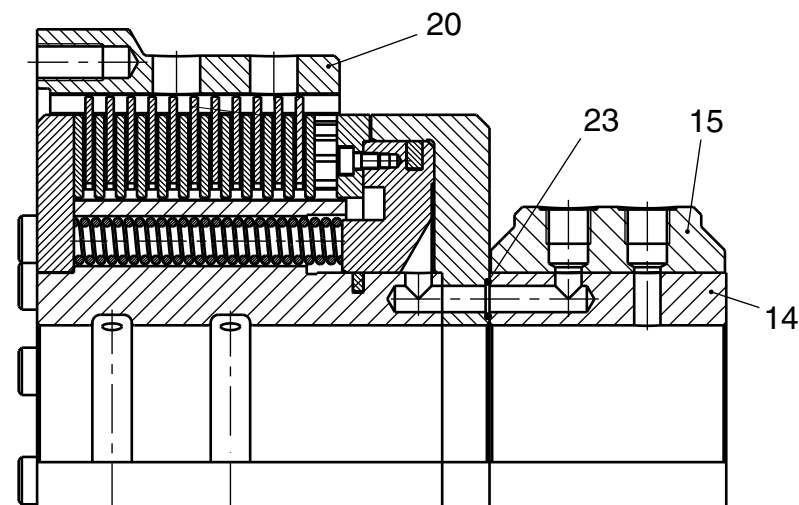

Fig. 3: Clutch with external oil inlet
With the clutches with an external oil inlet (see Fig. 3), the oil inlet ring (14) is fastened to the clutch with a shaft nut.